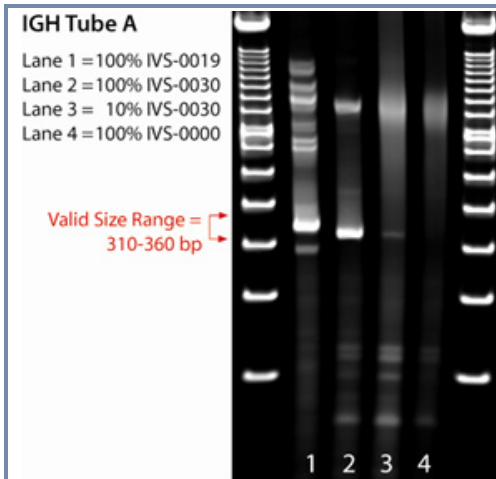

Figure 2. Products amplified with *IGH* Tube A master mix run on a 6% polyacrylamide gel.
10.2.1. **Gel Detection.** The data shown in Figures 2 - 6 were generated using the master mixes indicated.